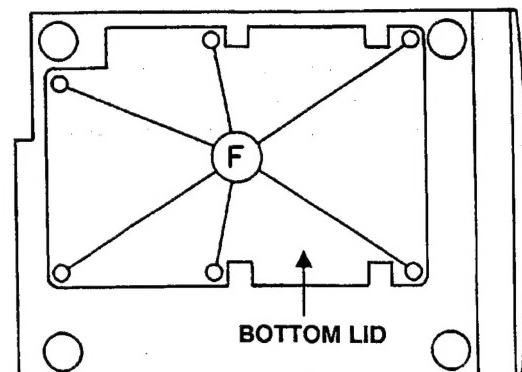

Fig. 5
- (1) Place the set on its side as shown in Fig. 5. At this time, in order not to cause scratches on the outer cover, place a cloth under the set.
- (2) Remove the 6 screws **F** and remove the bottom lid.